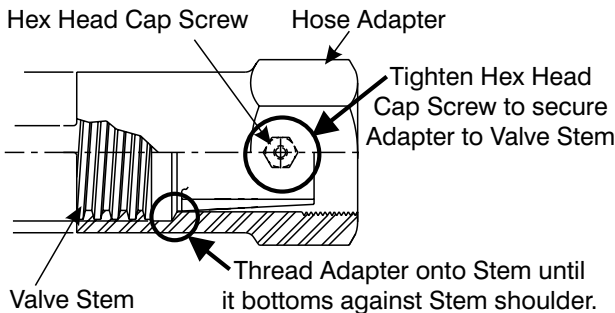

Figure 9-22. Hose Adapter in place on the Valve Stem.
- c. Tighten the Hose Adapter (15) onto Valve Stem until the undercut on the Valve Stem reaches the Hose Adapter as shown in Figure 9-22.